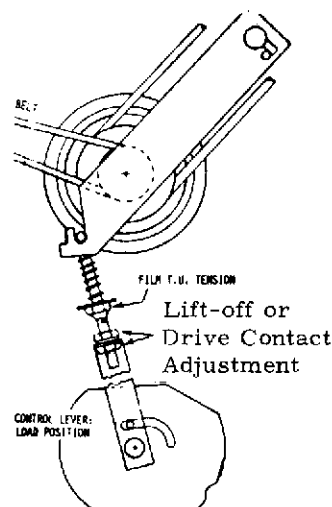

Figure 3-29. FILM TAKE-UP TENSION
- a. Slightly loosen two screws visible through the front of the lens mount (41).
- b. Close lens mount slowly by lifting control lever, noting contact between pressure shoe and left edge (viewed from front) of the aperture plate (53).
**3. Film Take-Up Tension (Fig. 3-29)**